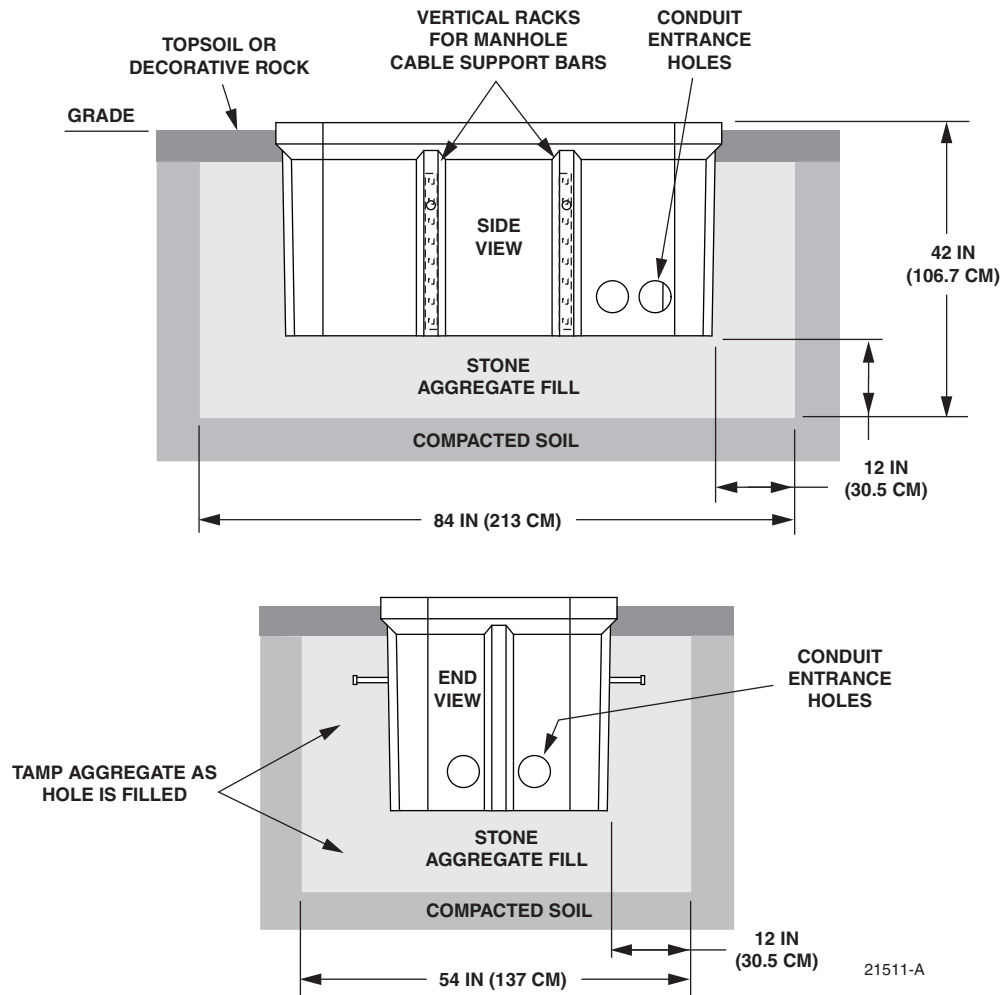

Figure 5. Excavation Recommendations for FMS-ACE100-KIT-A
The excavation must be large enough to provide a fill base that will maintain stability for the FMS and the cabinet mounted on it. There must be room for 12 inches (30.5 cm) of fill below and on each side of the FMS. The excavation dimensions for the FMS are shown in Figure 5. Excavate a rectangular hole for the FMS.
Select the conduit entrance holes (see Figure 5) for the OSP feeder and distribution cables. If necessary, additional conduit entrance holes may be cut using a power drill and hole saw. Place and route the conduit into the entrance hole(s). If preferred, the FMS may be installed without conduit. OSP cables may be routed into the FMS at any point that is convenient. Cut the cable entrance hole to match the size of the cable.
2. Complete the back-fill with crushed rock or topsoil depending on the landscaping requirements. The top surface of the mounting sleeve may be located from 0 to 4 inches (10.2 cm) above the surrounding grade (see Figure 5).